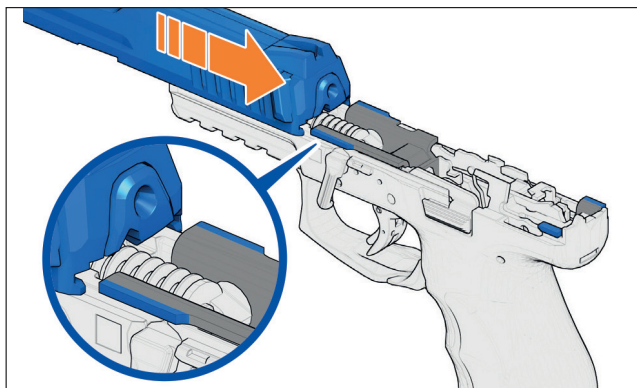

Figure 22 – Mounting the slide on the frame
6. Mount the slide onto the frame, ensuring that the recoil spring is centered underneath the barrel, and that the rails on the frame are inserted into the grooves on the bottom of the slide (see Figure 22).